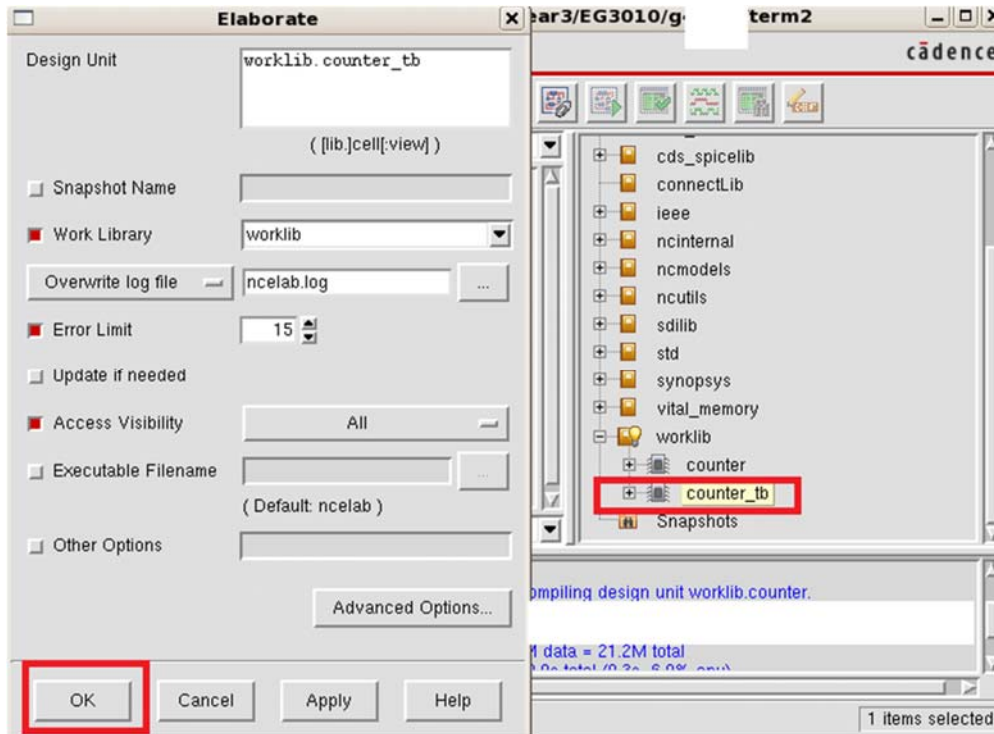

Figure Lab7-5 NCElab Window
6. Select **worklib/counter_tb** (as shown in Figure Lab7-5). **Right-click**→**NCElab**. Then click **OK**. This will link up all the related compiled modules for simulation.